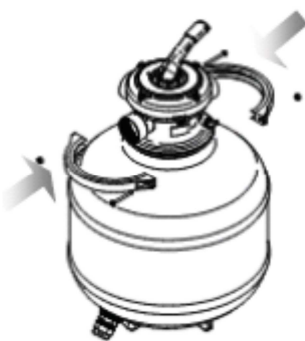

Fig. 18
6. Now fix the *multifunctional valve* to the tank through the supplied flange (Fig. 18). Work with a screwdriver to tight the screws.